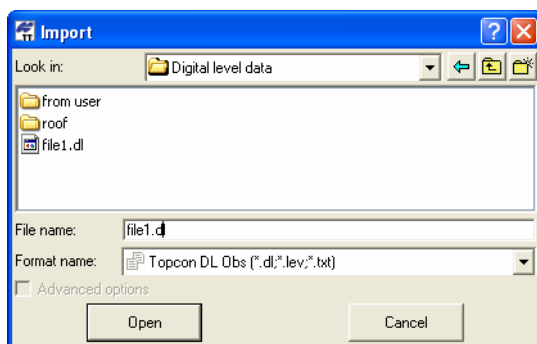

Figure 3-9. Import DL Obs File
4. Click **Open** to import the file (Figure 3-9 on page 3-13).